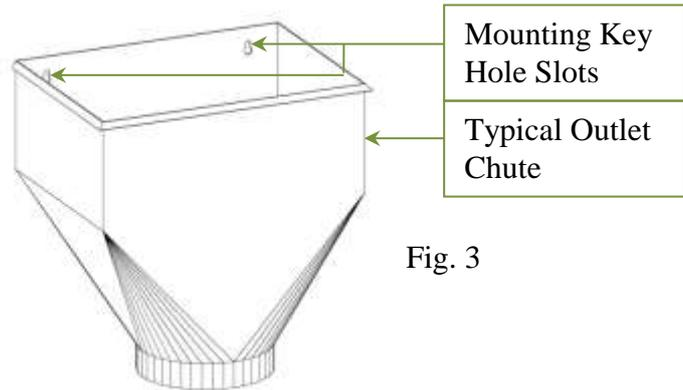

Fig. 3
4. Remove the outlet chute. This is achieved by simply lifting the chute upwards and ensuring that the keyhole slots in the rear of the chute clear the mounting studs located in the machine frame. See Fig 3.